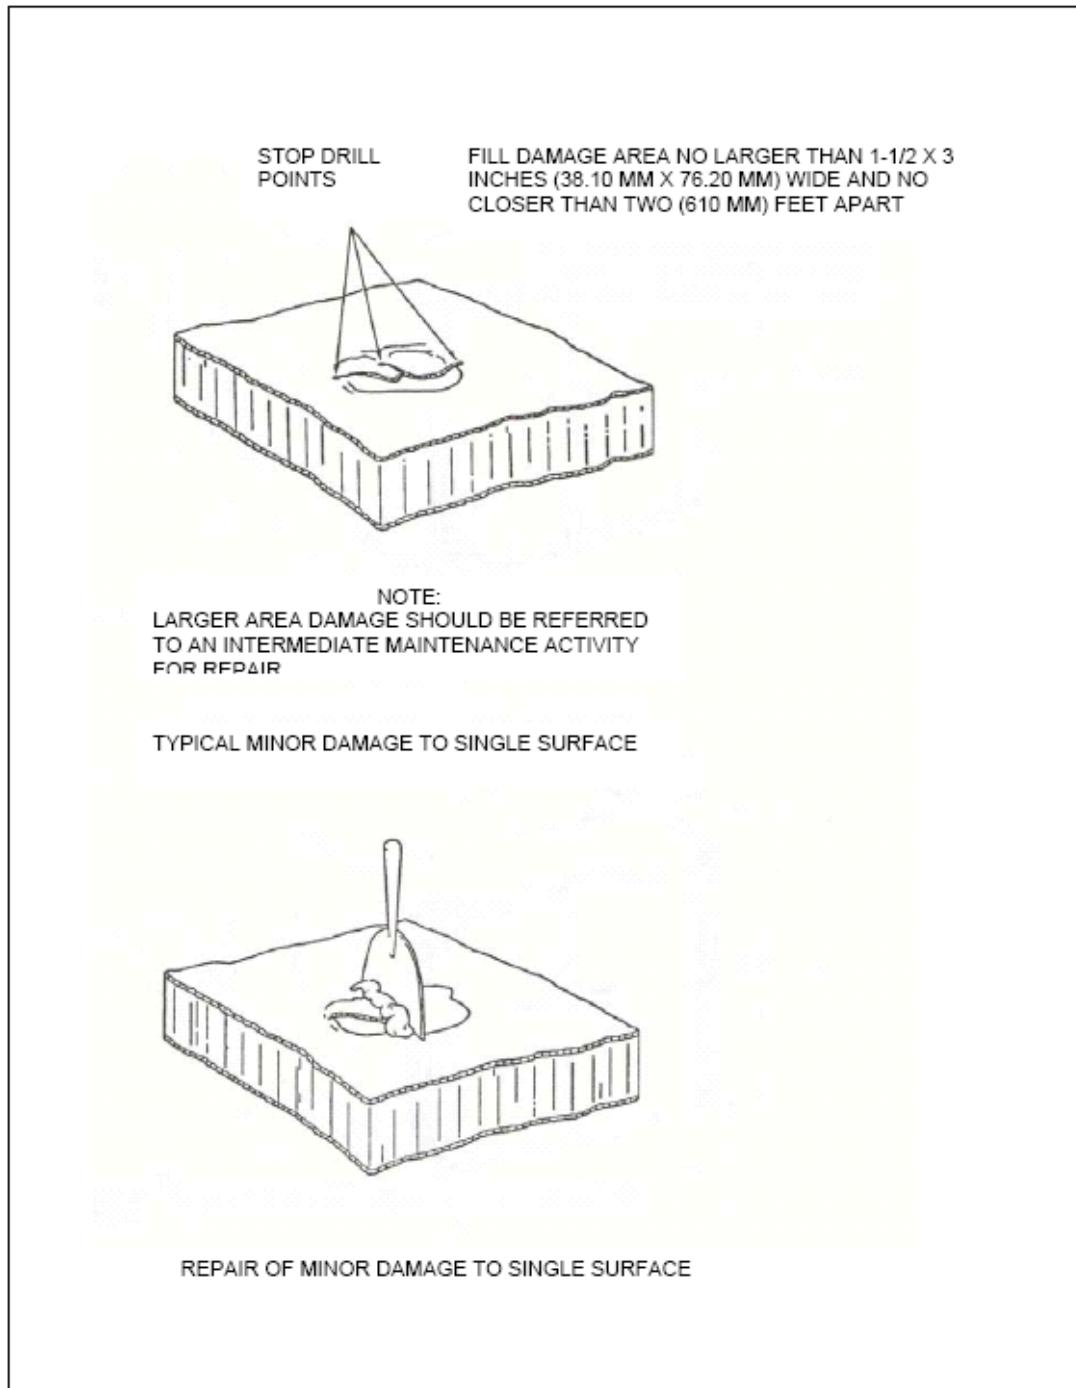

Figure 4-59. Typical repair procedure for face skin damage less than 1-1/2 x 3 inches (38.10 x 76.20 mm)
The following procedures should be used to repair skin fractures with an area of less than 1-1/2 x 3 inches (38.10 x 76.20 mm) (see Figure 4-59). Proceed as follows:
5. Pour paste into damaged area. Do not overfill (See Figure 4-59).